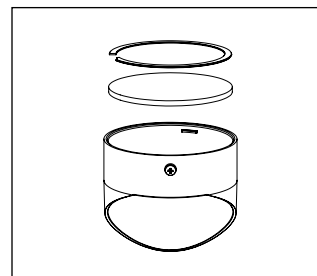

Figure 7
2. If media is present, carefully remove retention clip (Fig. 7). Place desired media (up to two) securely in the cap against clear lens. Replace retention clip and ensure media is snugly against clear lens.